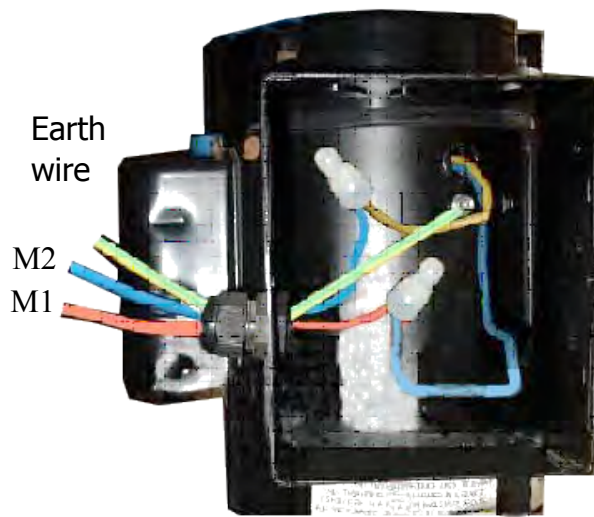

Fig.34
4.2 Wire connection of single phase hydraulic power unit(See fig.34)